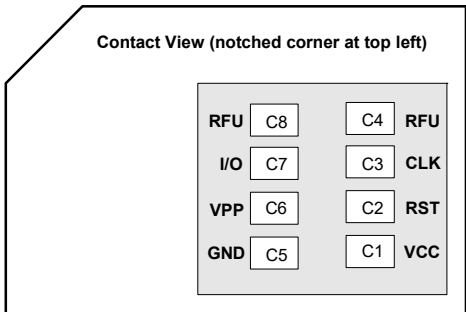

Figure 2-5: SIM Card Contacts (Contact View)
a. See Figure 2-5 on page 31 for SIM card contacts.